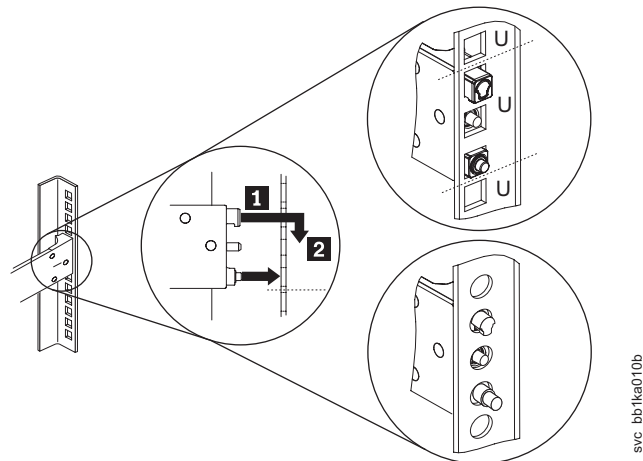

Figure 53. Installing the rear of a SAN Volume Controller 2145-CF8 slide rail in the rear of the rack
- b. Push the rails so that the pins go into the holes, as shown by **1** in Figure 53.